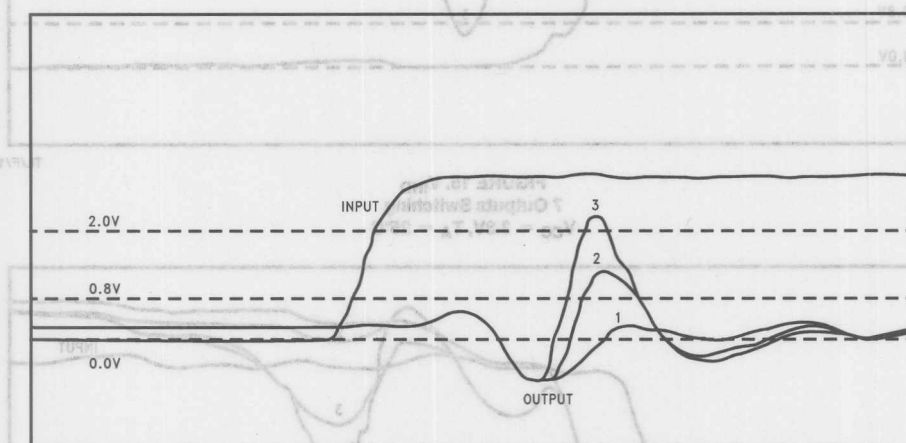

FIGURE 13.  $V_{ILD}$  7 Outputs Switching
1. On a low output, the LOW level will not rise above an input threshold low level of 0.8V after the transition of the output. *Figures 13 and 14.* Numbered output curve deflections are a result of 10 mV incremental changes on the low input signal level.